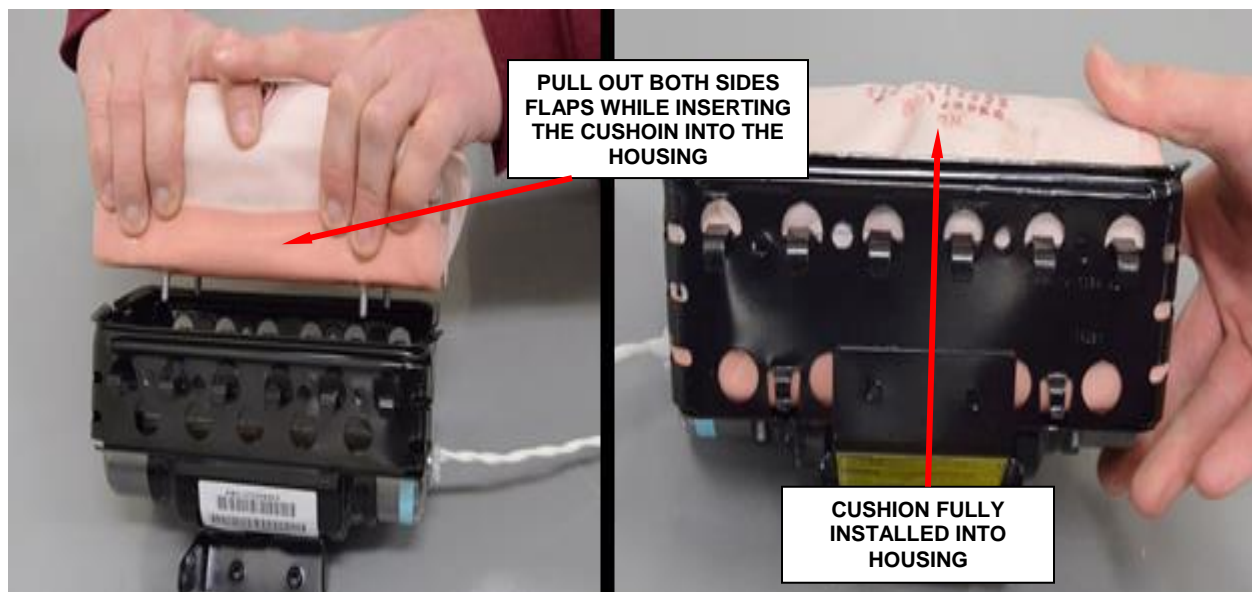

Figure 127 - Side Flaps Must Be Held Out
1. Insert the cushion, pulling out both side flaps (Figure 127).